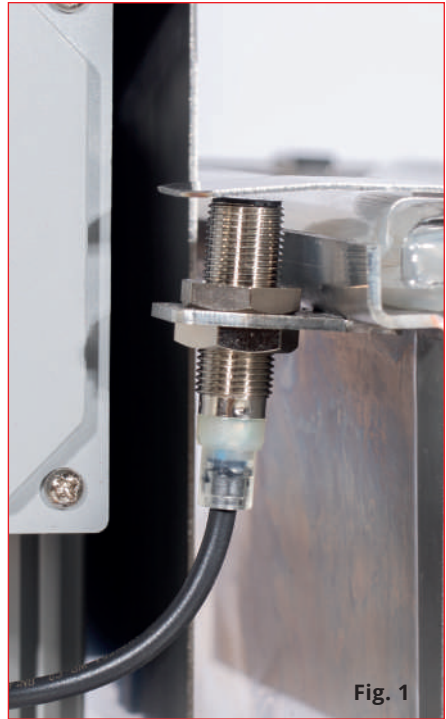

Fig. 1
- Place the lid on the container and secure it with the toggle clamps so that contact with the safety sensor is established (Fig. 1).
Once the correct amount of cream has been filled into the container (max. 13 L), butter production can begin. Place the lid on the container and pay particular attention to the correct position of the locking plate—it must cover the safety switch on the drive unit (Fig. 1, position 1-1). Secure the lid with the toggle clamps.